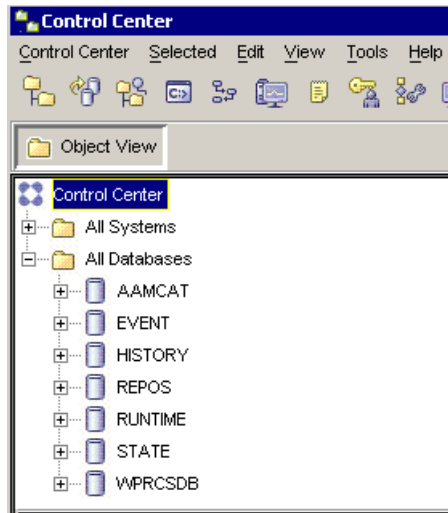

Figure B-10 Post installation: Monitor Server databases
- ▶ Start the DB2 Control Center and validate there are seven databases: AAMCAT, HISTORY, REPOS, RUNTIME, STATE, EVENT, WPRCSDB (Figure B-10).